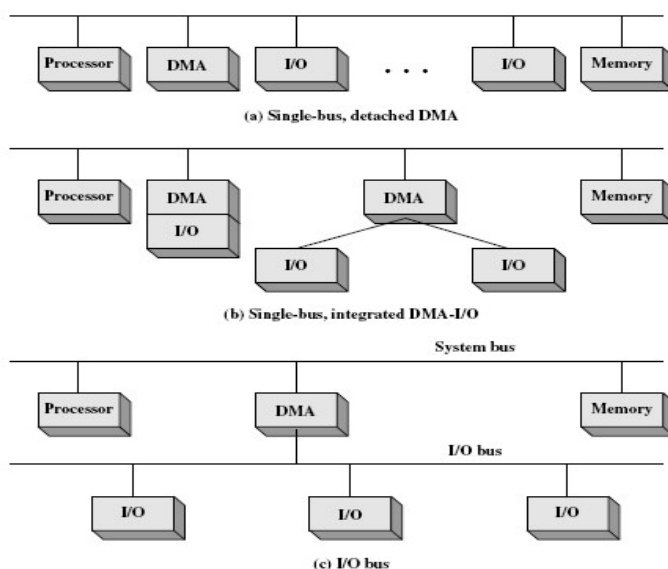

Figure 7.13. Alternative DMA Configurations
- Some possibilities are shown in Figure 7.13.